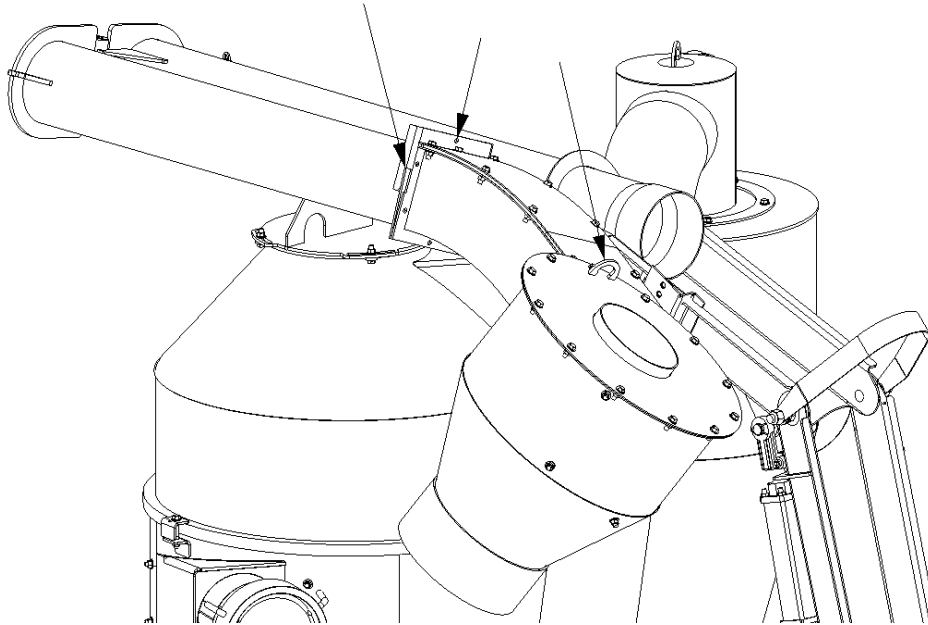

Figure 5-8: Discharge cyclone alignment
- a. Using the lifting eye identified in **Figure 5-8**, lift the discharge cyclone into place by aligning the notches and bolt holes of the discharge cyclone mounting plate with the boom mounting plate.